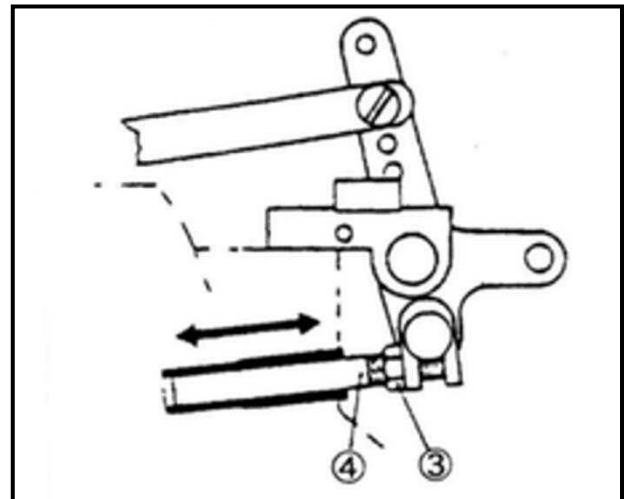

Fig.8
1 放松螺母③。(Fig.8)
1 Loosen the lock nut ③ . (Fig.8)